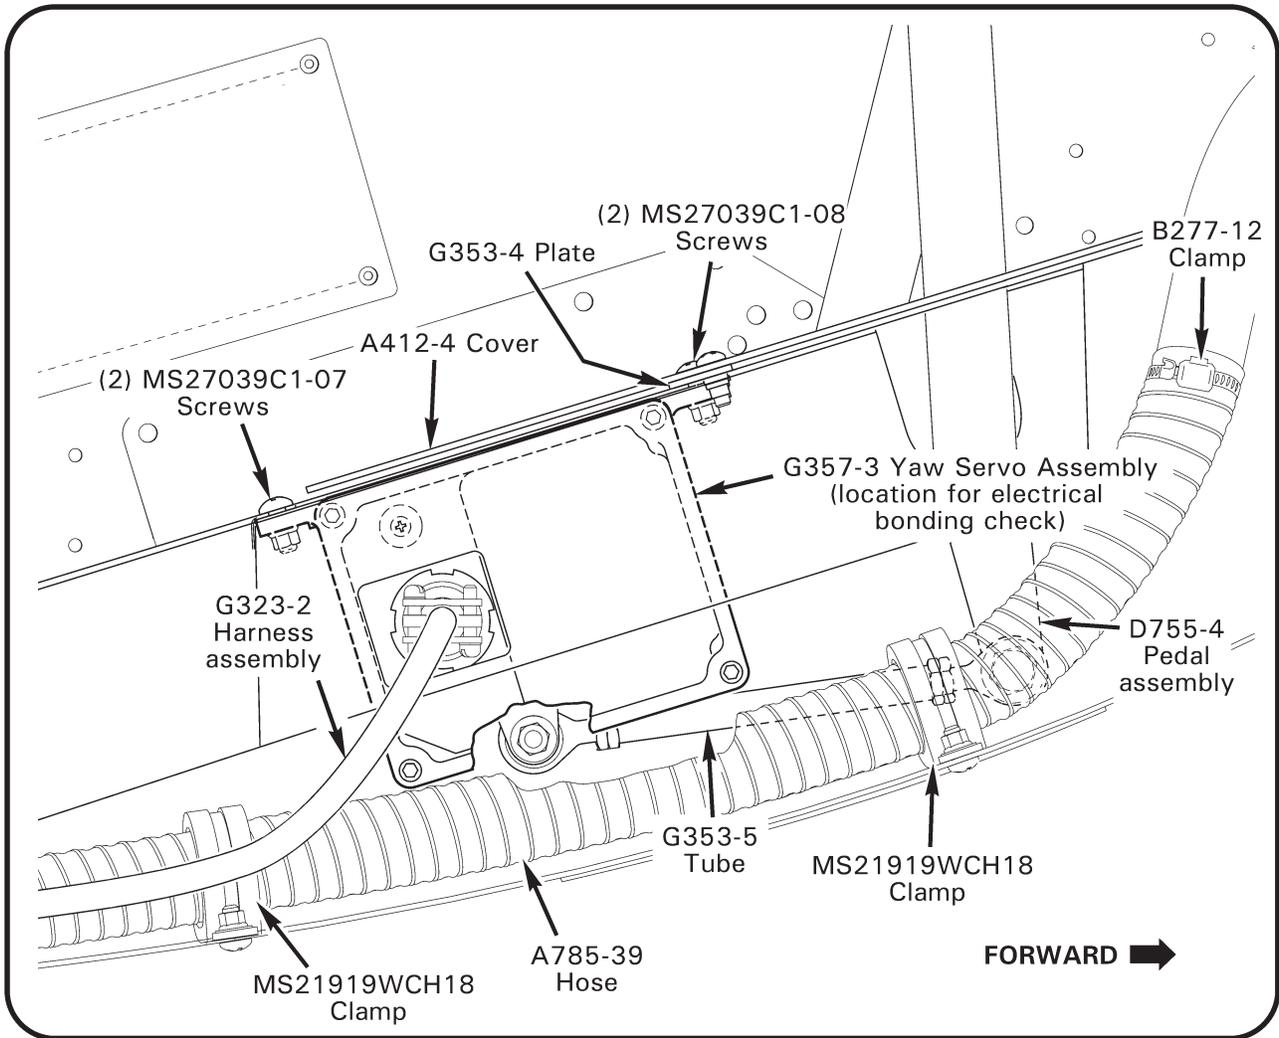

FIGURE 22-4 GARMIN FCS – YAW SERVO ASSEMBLY (3-AXIS INSTALLATION ONLY)
2. Refer to Figure 22-4. Remove pilot side carpet and scuff plate from floor per § 25-30. Remove screws securing A412-4 cover and C795-1 cover.
3. Loosen B277-12 clamp and remove (2) MS21919CHW18 clamps securing A785-39 hose. Gently move hose clear from under G357-3 servo assembly.
7. Install A785-39 hose on G400-1 tee assembly and tighten B277-12 clamp. Install (2) MS21919CHW18 clamps securing hose to chin.
11. Refer to Figure 22-4. Install screws securing A412-4 cover and C795-1 cover. Install carpet and scuff plate per § 25-30.